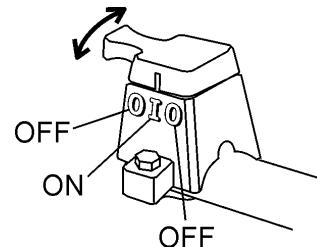

Figure 24. Engine Shutdown Switch
2. Turn the **engine Shutdown switch** (next to the handle lock) (Figure 24) to the "OFF" position. Shutting the engine off using this switch confirms that it is functioning properly.